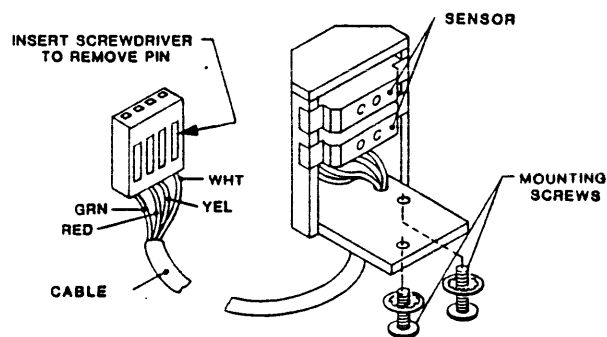

Figure 5-23. EOT/BOT Sensor Assembly
5.3.28 BOT/EOT SENSOR ASSEMBLY (Fig. 5-23)